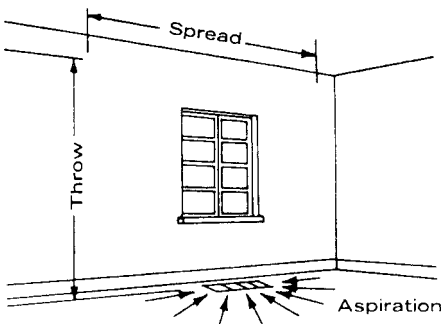

Figure 17-1 Aspiration, throw, and spread. (Courtesy of Lima.)
When checking for room comfort, it is best to measure the velocity of the air at the distance of 4 to 72 in. from floor level. Velocity is measured with a velometer (see Fig. 17-1). Following is a range of air velocities and their characteristics.
- *Aspiration* is the induction of room air into the primary air stream. Aspiration helps eliminate stratification of air within the room. When outlets are properly located along exposed walls, aspiration also aids in absorbing undesirable currents from these walls and windows (see Fig. 17-1).
- *Throw* is the distance (measured in feet) that the air stream travels from the outlet to the point of terminal velocity. Throw is measured vertically from perimeter diffusers and horizontally from registers and ceiling diffusers (see Fig. 17-1).